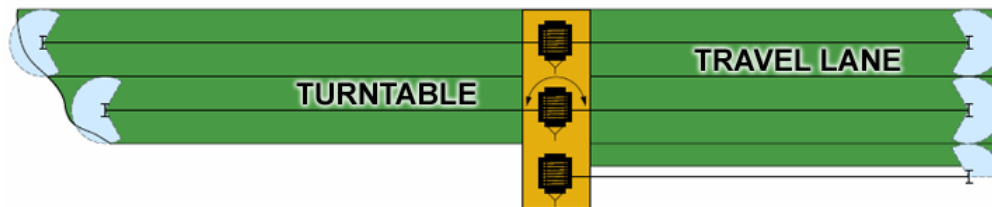

Figure 6 - Multiple Pass Setup
- The best start position for your reel is at the center of the furthest section away from the source of water. (see Figure 6) By doing this your subsequent setups will not require additional water source changes.